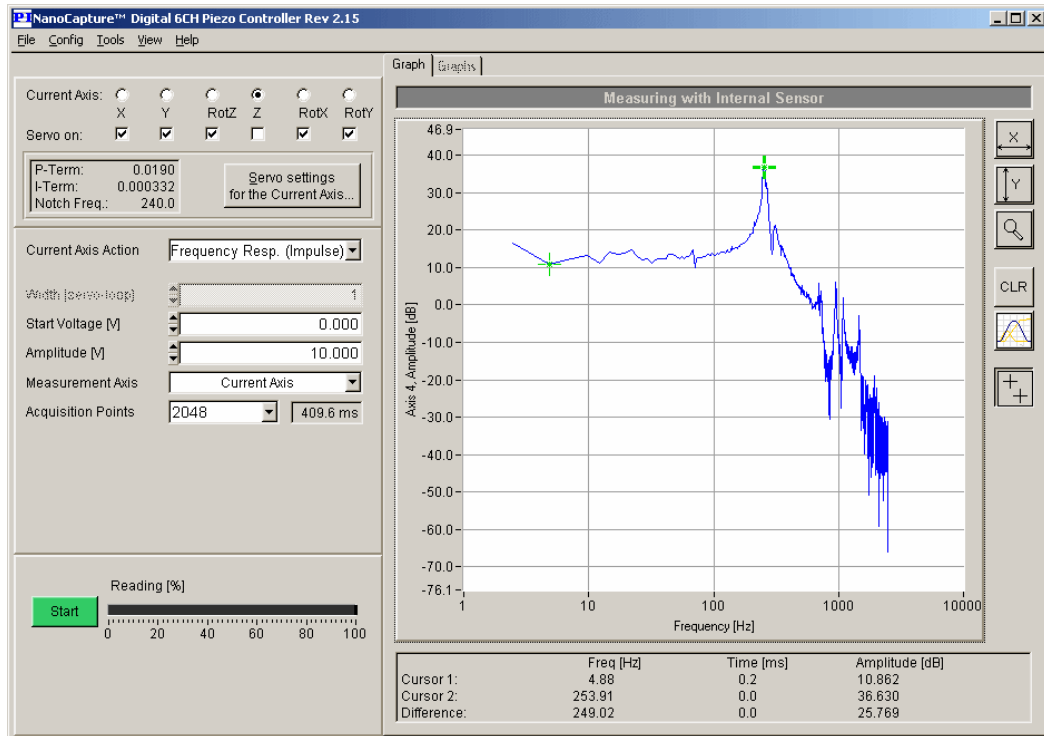

Fig. 26. Cursor positioning for determination of notch frequency
1. On a Bode plot made in open-loop mode, enable cursor display and enable the cross-hair cursors (Fig. 26).